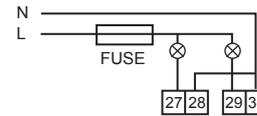

Fig. 6-13
- The connection is described in Fig.6-13 .